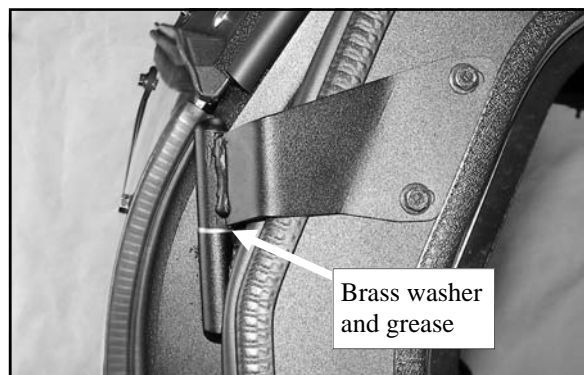

Fig. 11.1 (View of right side)
11.1 See fig. 11.1. Apply grease (not supplied) to both hinge pins. Install one brass washer to the top hinge pin. Install the door by engaging just the top hinge pin and then shutting the front of the door so that it engages properly into the striker pin.